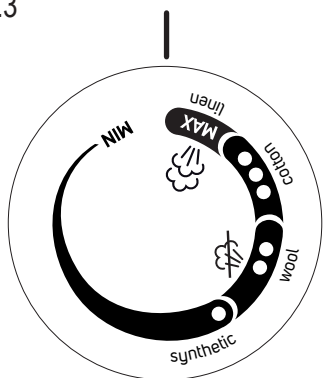

Fig.4
- ♦ The indicator lamp (B) will light up (Fig.4)
- ♦ During the heating process, and depending on the setting, the (C) indicator will flash until the steamer reaches temperature, once this happens the indicator will remain constant, indicating that it is fully ready to iron. This process takes about 60" and is controlled by the product's electronics.
- ♦ Wait until the pilot light (B) has gone out which will indicate that the appliance has reached an adequate temperature.